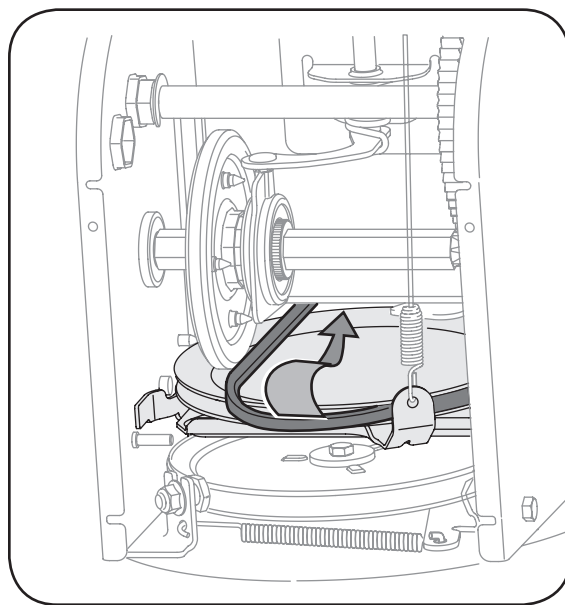

Figure 6-12
4. Slip the drive belt off the pulley and between friction wheel and friction wheel disc. See Figure 6-12.